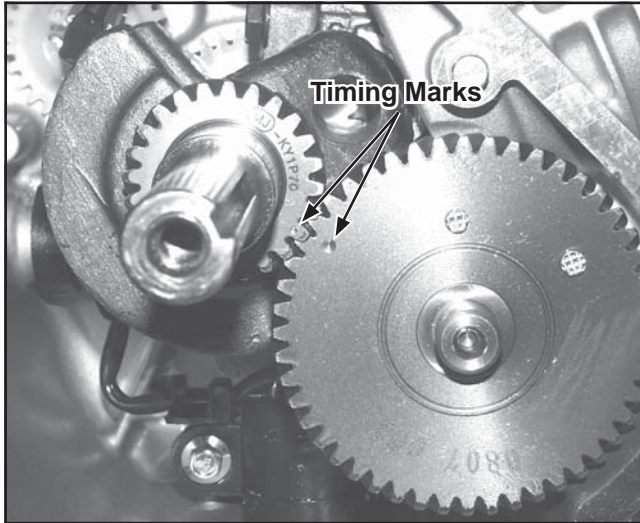

Figure 11-29. Aligning Crankshaft and Camshaft Timing Marks.
3. Rotate the crankshaft to TDC so the timing mark (dimple) on the smaller crankgear is in the 4 o'clock position. Install the camshaft into the crankcase, aligning the timing marks on the two gears. See Figure 11-29.